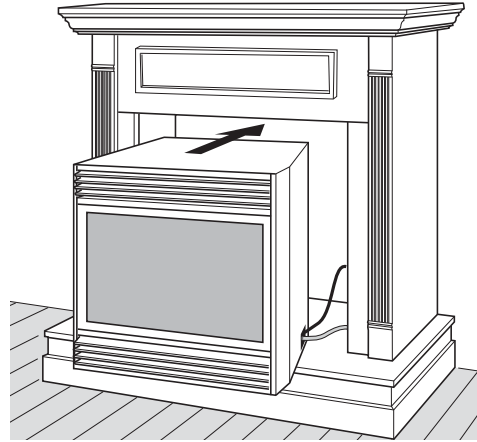
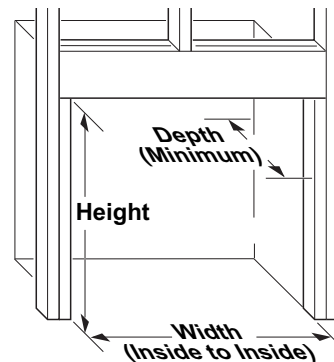
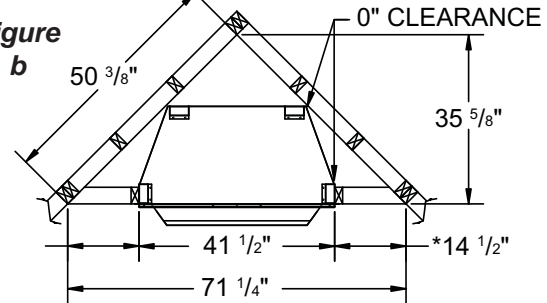

Figure 12 - Inserting Fireplace Into Cabinet Mantel
Figure 13 - Rough Opening for Installing in Wall
Figure 14 - Rough Opening for Installing in Corner
1. Frame in rough opening. Use dimensions shown in **Figure 13** for the rough opening. If installing in a corner, use dimensions shown in **Figure 14, Figure 12**, for the rough opening.